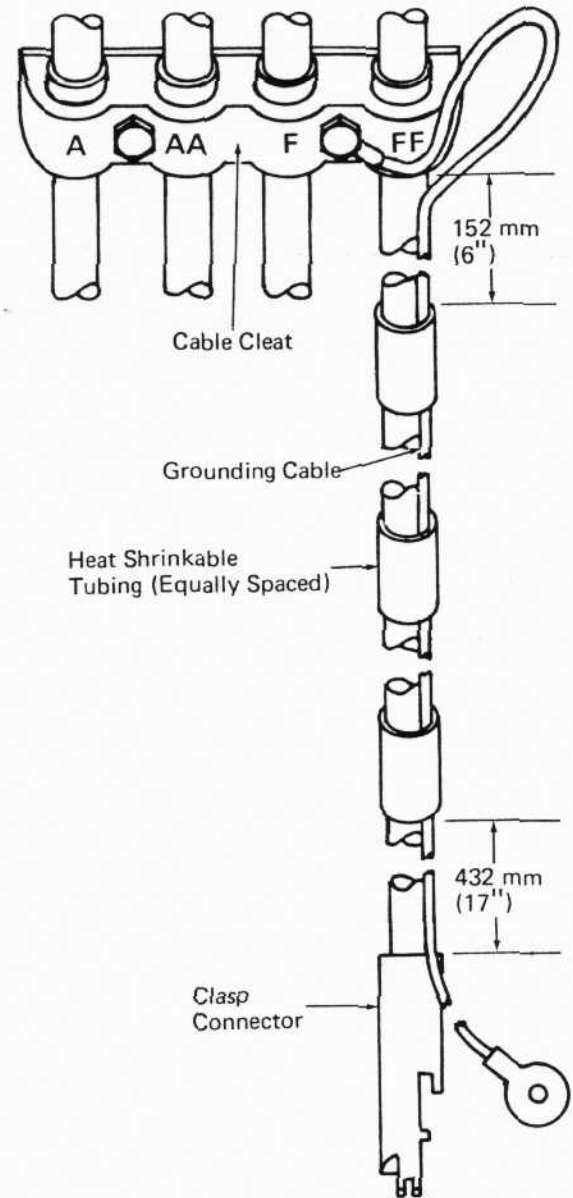

Fig. 32 - External Lead Grounding Cable Application
- a. Attach grounding cable as shown in Fig. 32.
- c. Position three sections of heat shrinkable tubing as shown in Fig. 32.